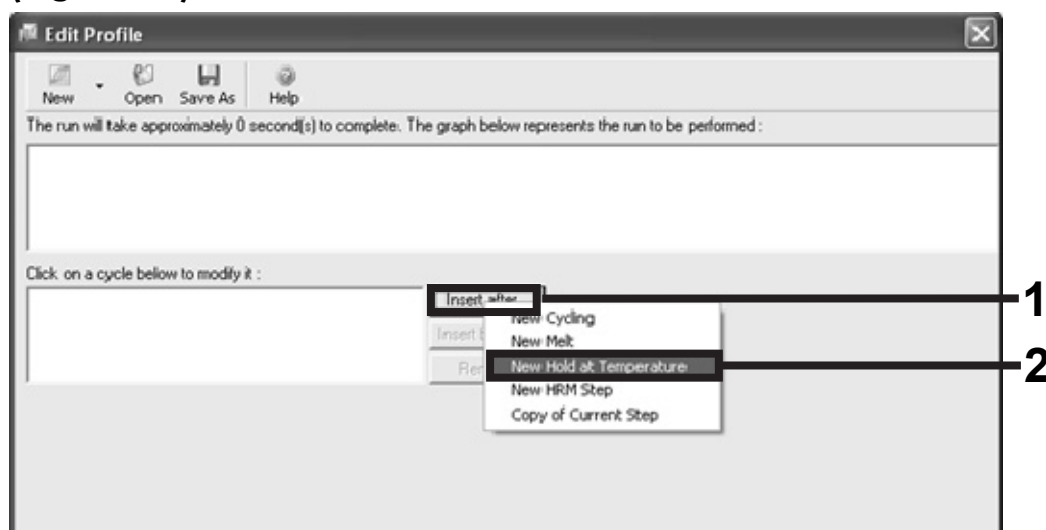

Figure 18. Inserting an initial incubation step.
Initial activation of the hot-start enzyme	Figures 18–19
- Click the “Insert after” button and select *New Hold at Temperature* (Figure 18).